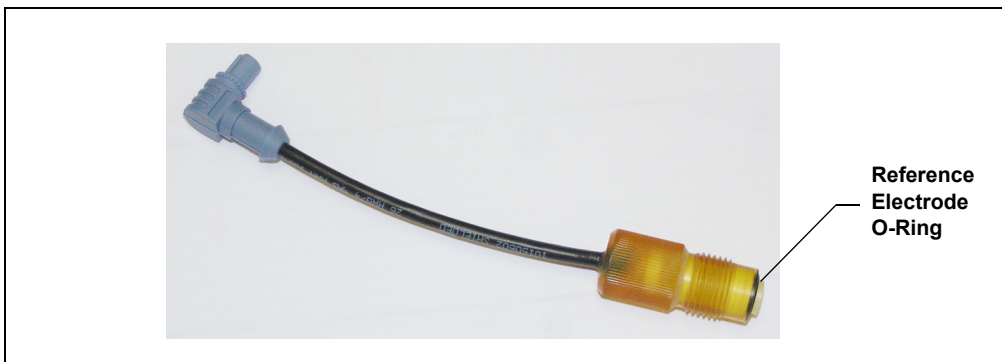

Figure 9-41. Removing the Reference Electrode O-Ring
6. Remove the O-ring from the bottom of the reference electrode (see Figure 9-41).